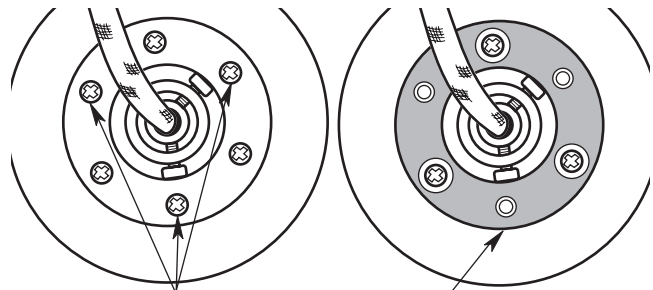

Figure 2A
1. Remove and retain three screws from the top of the motor housing (Figure 2A).